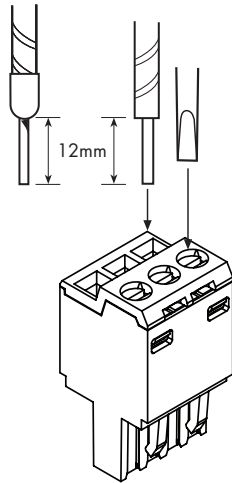

Figure 4.13: Wiring hazardous-area power output plugs
- a) Trim insulation to suit bare or ferrule wire end (Figure 4.13)